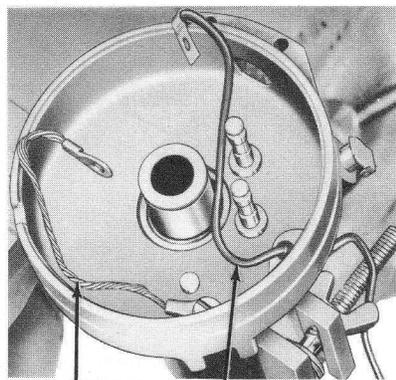

FIG. 10—Primary and Ground Wire Installation
3. Pass the primary wire assembly through the opening in the distributor, working from the inside to the outside of the distributor housing. Pull the wire through the opening until the locating stop is flush with the inside of the distributor (Fig. 10). Install the ground wire (Fig. 10).